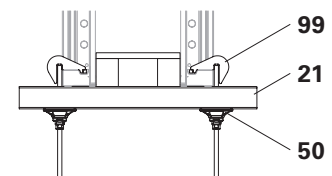

Fig. C8.04b
- Waler 85 (21) with Bulkhead Tie MX/TR (99) and Wingnut Pivot Plate DW15 ga (50). (Fig. C8.04b)